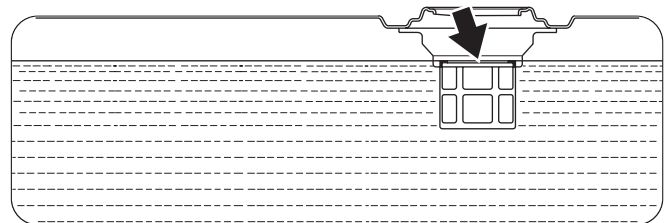

Figure 13 – Maximum Fuel Fill Level
6. Slowly add fuel into the fuel tank. Be careful not to overfill the tank. The fuel level should NOT be higher than the bottom of the filler neck (see *Figure 13*).